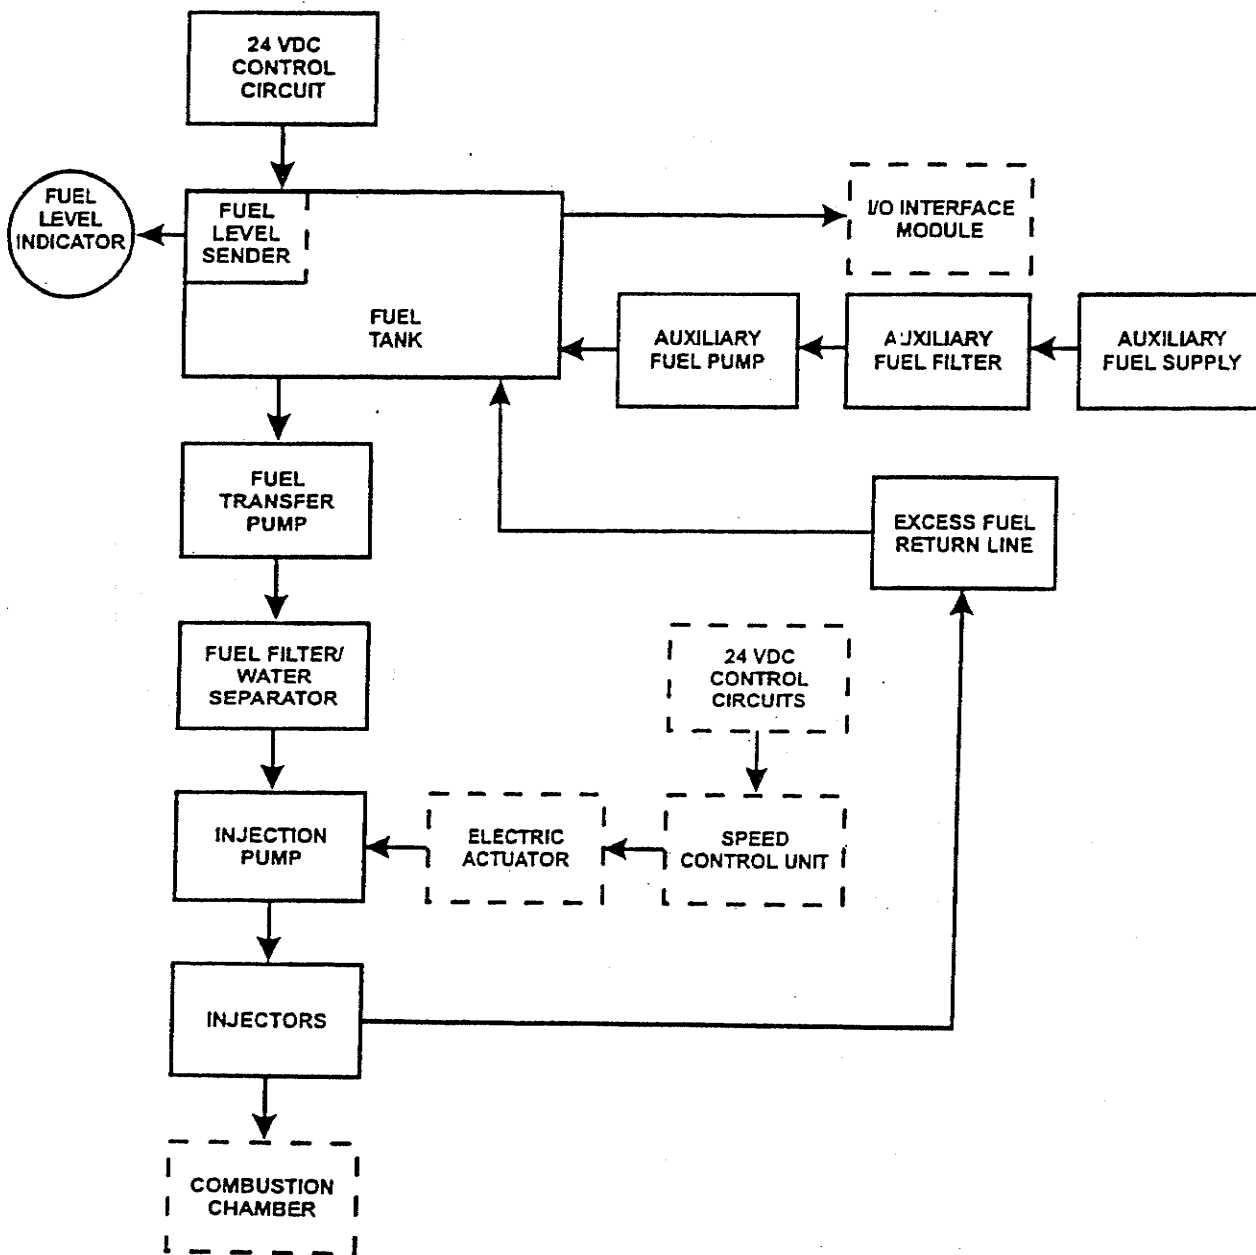

FIGURE 1-22. FUEL SYSTEM FLOW DIAGRAM
- 1.16.5.1 The Fuel System (Figure 1-22) includes a primary subsystem and an auxiliary subsystem.